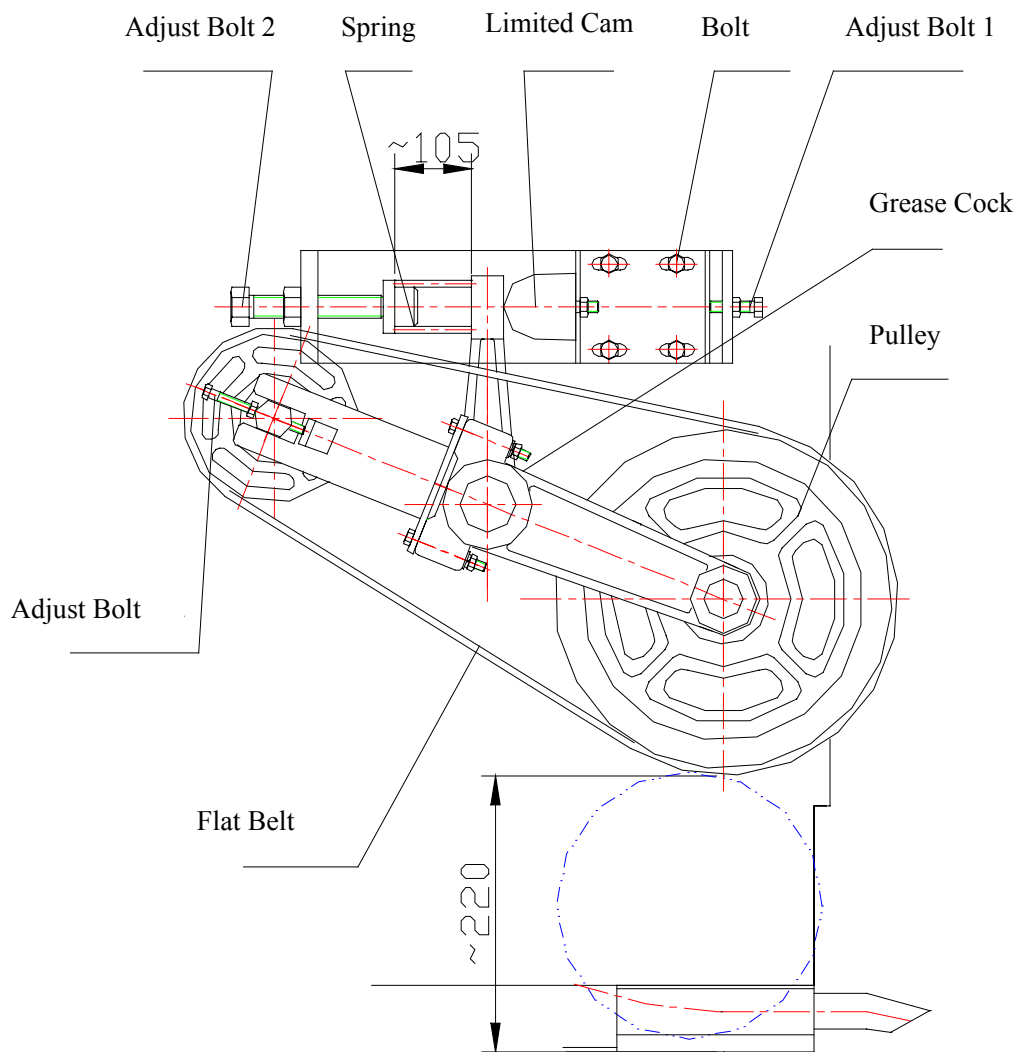

Fig. 2
1. Adjustment of the Flat Belt (See fig. 2)
2. Adjustment of Limited Cam and Pressing Force (See fig. 2)